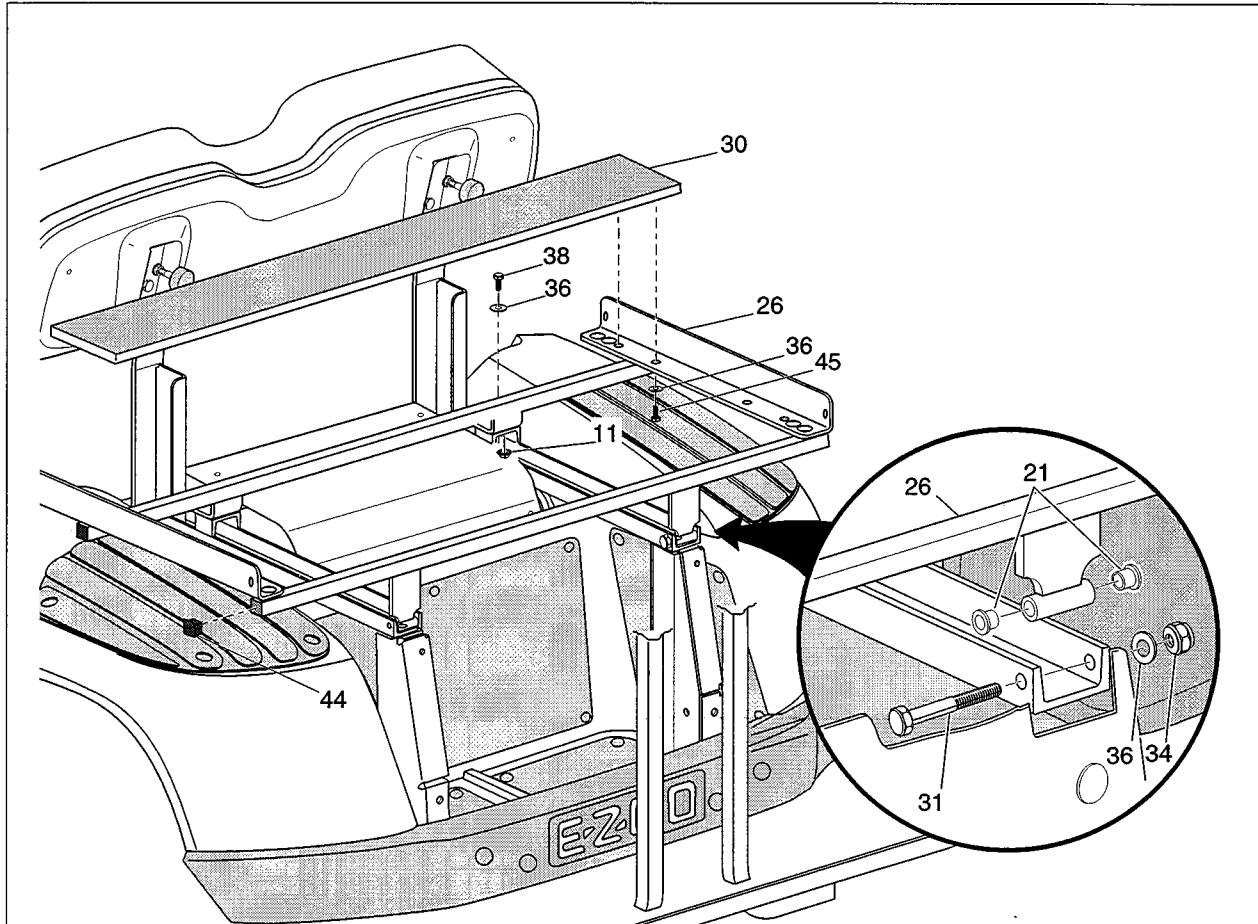
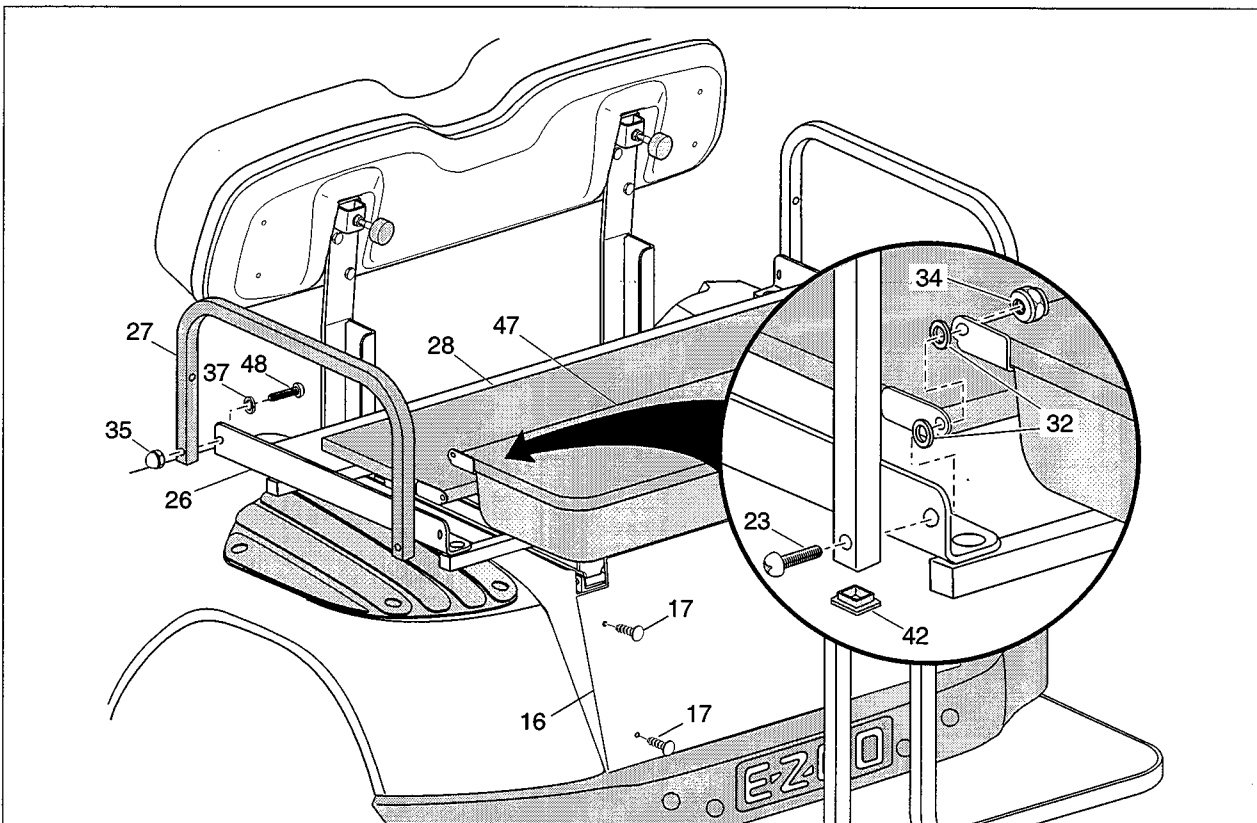
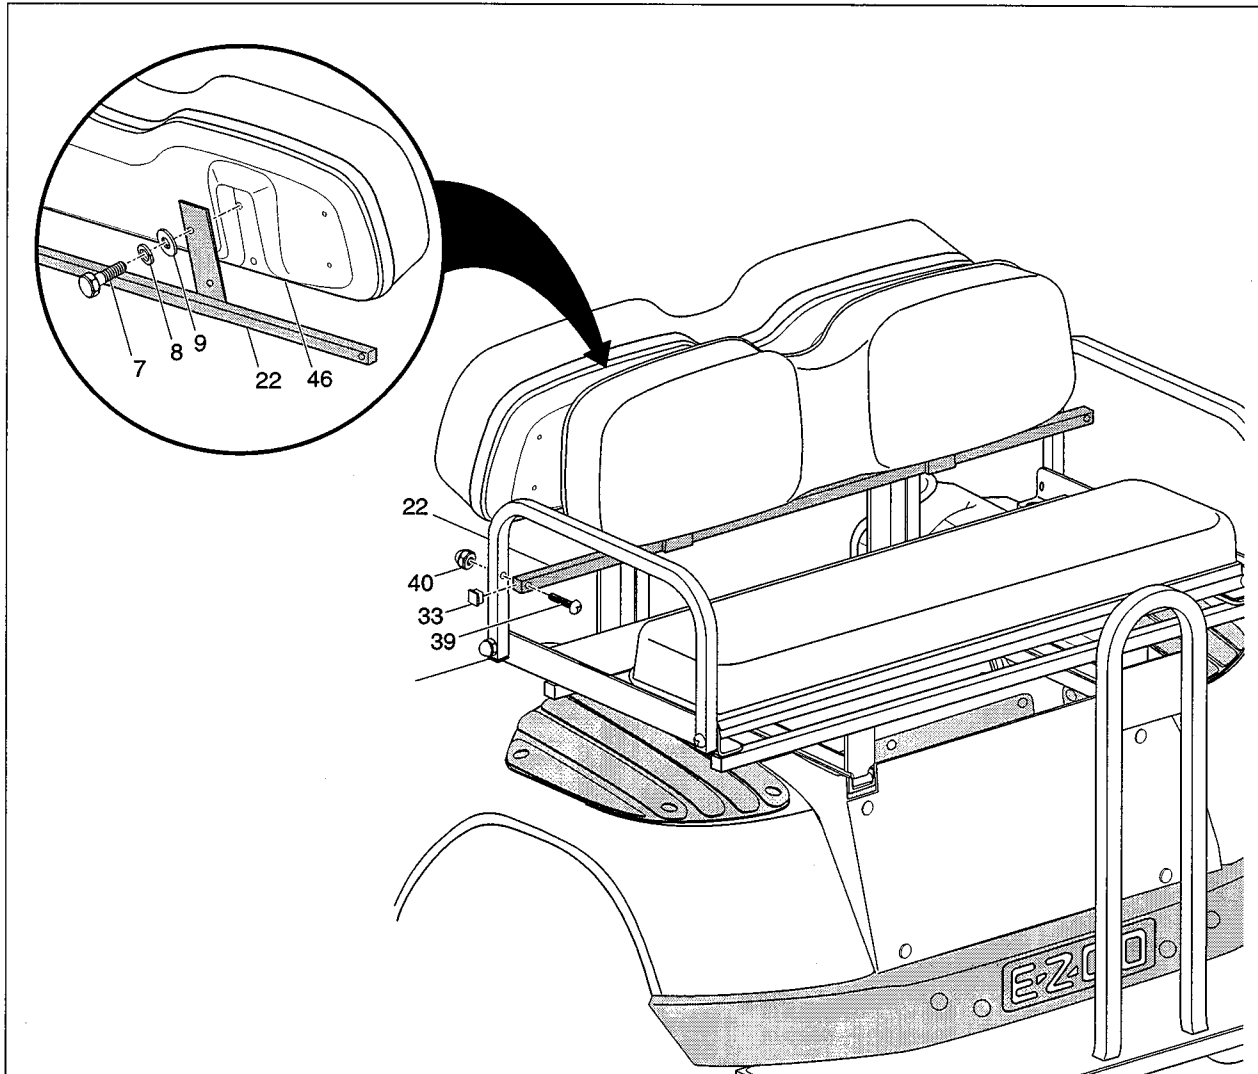

Fig. 6
Fig. 7
Fig. 8
3. As a 'test fit', place the support frame (item 26) into the channels of the seat back support (See Fig. 6) and tighten the hardware securing the seat back support to the vehicle frame and vertical frame support to 21-25 ft. lbs. torque.
F. INSTALLING SUPPORT FRAME (Refer to Fig. 6)
1. Insert the nylon bushings (item 21) into the pivot brackets in the support frame (item 26) (4 places).
3. Insert the bolt (item 31) through the pivot from the center of vehicle (2 places) and secure with washer (item 36) and nut (item 34).
4. Secure front of support frame to seat back support using bolt (item 38), washer (item 36) and nut (item 11).
5. Insert end plug (item 44) in each end of both tubes of support frame.
G. INSTALLING FIXED BED (Refer to Fig. 6)
1. Attach fixed bed (item 30) to support frame (item 26) using bolt (item 45) and washer (item 36). (Two places on each end of fixed bed. Do not tighten hardware at this time as some adjustment may be necessary.
H. INSTALLING HANDRAIL (Refer to Fig. 7)
1. Insert end plug (item 42) in each end of handrail (item 27).
2. Attach handrail at forward end of support frame (item 26) using bolt (item 48), lock washer (item 37) and acorn nut (item 35). Do not tighten hardware at this time.
I. INSTALLING LOAD BED AND SEAT BOTTOM (Refer to Fig. 7)
1. Position load bed (item 28) in support frame as shown.
2. Position seat bottom (item 47) in support frame as shown.
3. Insert teflon washer (item 32) between support frame and load bed and again between load bed and seat bottom as shown.
4. Secure all components by inserting bolt (item 23) through handrail, support frame, washer, bed assembly, washer and seat bottom and secure with lock nut (item 34). (See Detail in Fig. 8) Tighten fixed bed hardware to 5 - 7 ft. lbs. torque and handrail hardware to 12 - 14 ft. lbs. torque.
1. Place the valance panel (item 16) as shown in Fig. 7 with the sides inside the bagwell.
2. Secure the valance panel to the vertical support brackets using two rivets (item 17) in each bracket.
K. INSTALLING SEAT BACK (Refer to Fig. 8)
1. Attach seat back (item 46) to seat back support (item 22) using bolt (item 7), lock washer (item 8) and washer (item 9). Tighten to 5 - 7 ft. lbs. torque.
2. Secure seat back to handrail using bolt (item 39) and acorn nut (item 40). Tighten to 5 - 7 ft. lbs torque.
3. Insert end plug (item 33) in each end of seat back support tube.